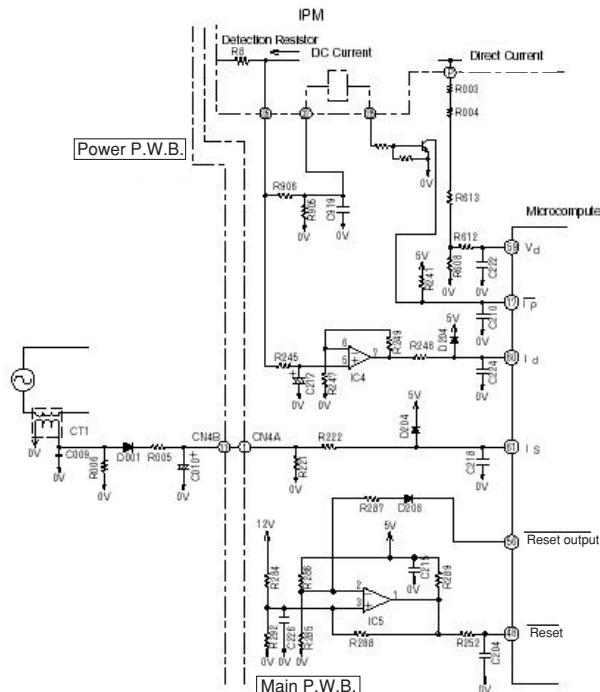

Fig. 6-2
ID OVL is watching and limits the compressor current through the detection resistor, which is built in IPM in order to control the compressor reliability. Since the compressor reliability is related with its speed, the ID OVL value is also linked with the compressor speed. FIG6-2 shows an ID OVL limitation curve.
Fig. 6-2. The filter consisting of R245 and C217 removes high harmonic frequencies from the voltage generated by the current flowing to Detection resistor; R245 and C217 average the voltage. This voltage is then input to IC4 pin ⑤ and supplied to microcomputer pin ⑩. The microcomputer compares this input with the set value, and if the input exceeds the set value, it enters overload control status.